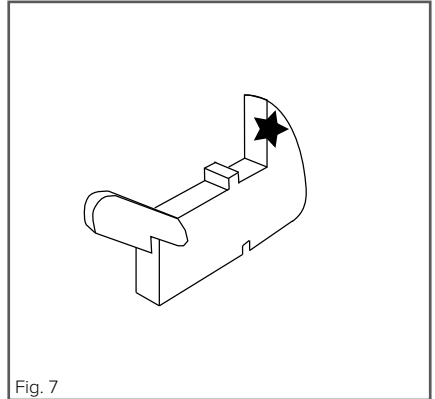

Fig. 7
- Hold the door to the appliance in the closed position and manoeuvre the hinges so that the part of the hinge, highlighted by the star in fig. 7, inserts into the hinge slot in the cavity frame.